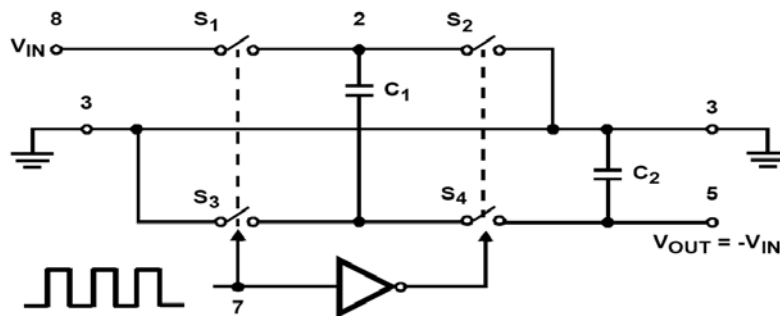
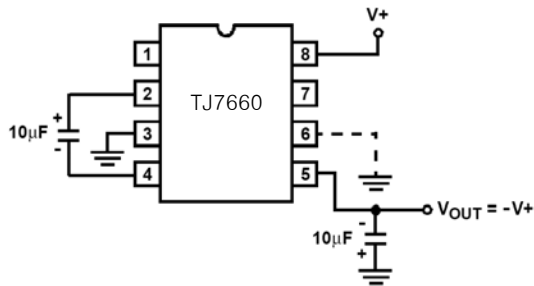

FIGURE 12. IDEALIZED NEGATIVE VOLTAGE CONVERTER
FIGURE 13A. CONFIGURATION
The TJ7660 contains all the necessary circuitry to complete a negative voltage converter, with the exception of 2 external capacitors which may be inexpensive 10 $\mu$ F polarized electrolytic types. The mode of operation of the device may be best understood by considering Figure 12, which shows an idealized negative voltage converter. Capacitor  $C_1$  is charged to a voltage,  $V_+$ , for the half cycle when switches  $S_1$  and  $S_3$  are closed. (Note: Switches  $S_2$  and  $S_4$  are open during this half cycle.) During the second halfcycle of operation, switches  $S_2$  and  $S_4$  are closed, with  $S_1$  and  $S_3$  open, thereby shifting capacitor  $C_1$  negatively by  $V_+$  volts. Charge is then transferred from  $C_1$  to  $C_2$  such that the voltage on  $C_2$  is exactly  $V_+$ , assuming ideal switches and no load on  $C_2$ . The TJ 7660 approaches this ideal situation more closely than existing non-mechanical circuits. In the TJ7660, the 4 switches of Figure 12 are MOS power switches;  $S_1$  is a P-Channel device and  $S_2$ ,  $S_3$  and  $S_4$  are N-Channel devices. The main difficulty with this approach is that in integrating the switches, the substrates of  $S_3$  and  $S_4$  must always remain reverse biased with respect to their sources, but not so much as to degrade their "ON" resistances. In addition, at circuit start-up, and under output short circuit conditions ( $V_{OUT} = V_+$ ), the output voltage must be sensed and the substrate bias adjusted accordingly. Failure to accomplish this would result in high power losses and probable device latchup.
where  $V_1$  and  $V_2$  are the voltages on  $C_1$  during the pump and transfer cycles. If the impedances of  $C_1$  and  $C_2$  are relatively high at the pump frequency (refer to Figure 12) compared to the value of  $R_L$ , there will be a substantial difference in the voltages  $V_1$  and  $V_2$ . Therefore it is not only desirable to make  $C_2$  as large as possible to eliminate output voltage ripple, but also to employ a correspondingly large value for  $C_1$  in order to achieve maximum efficiency of operation.
The output characteristics of the circuit in Figure 13A can be approximated by an ideal voltage source in series with a resistance as shown in Figure 13B. The voltage source has a value of -V+. The output impedance (RO) is a function of the ON resistance of the internal MOS switches (shown in Figure 12), the switching frequency, the value of C1 and C2, and the ESR (equivalent series resistance) of C1 and C2. A good first order approximation for RO is: